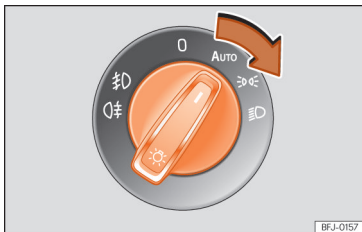

Fig. 93 Dash panel: lights control.
- Turn the switch to the required position »» **Fig. 93**.